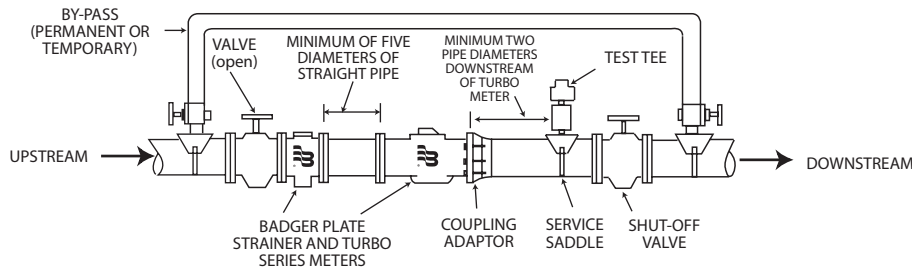

Figure 1: Recommended meter installation
Procedures for installing Recordall Turbo Series meters are essentially the same for all meter sizes. Any special instructions required for the installation or connection of accessory devices such as AMR/AMI technologies or strainers is provided in the literature for those devices. *Figure 1* shows a recommended meter installation.
- ◇ When installing the meter with a separate plate strainer or integral strainer, a minimum of 5 pipe diameters of straight, unobstructed pipe is recommended upstream of the meter. For optimum protection and accuracy, this straight pipe spool piece should be installed between the separate strainer and meter (see *Figure 1*). A minimum of 10 pipe diameters (minimum of 25 pipe diameters for smallest size) of straight unobstructed pipe is recommended upstream of a meter installed without a plate strainer. The deletion of a strainer, however, is not recommended. This allows for dampening of velocity profile distortions caused by elbows, pumps, and dirt traps upstream of the meter. Where spiral flows are created by three dimensional elbows or rotary pumps, additional distance to dampen the effect is beneficial. If a basket or Y-type strainer is used, place it 5 to 10 pipe diameters upstream of the meter to dampen velocity profile distortions created by this design.